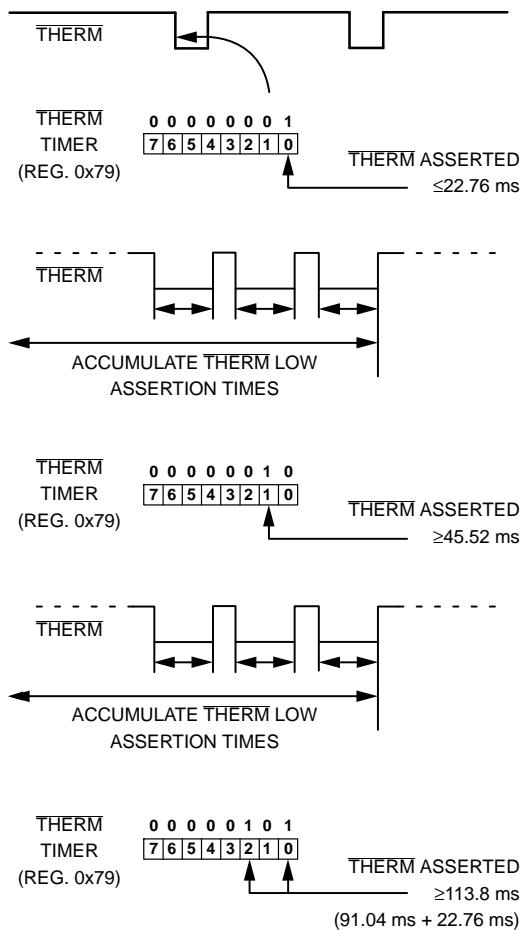

Figure 32. Understanding the **THERM** Timer
45.52 ms, Bit 1 of the **THERM** timer is set and Bit 0 becomes the LSB of the timer with a resolution of 22.76 ms (see Figure 32).